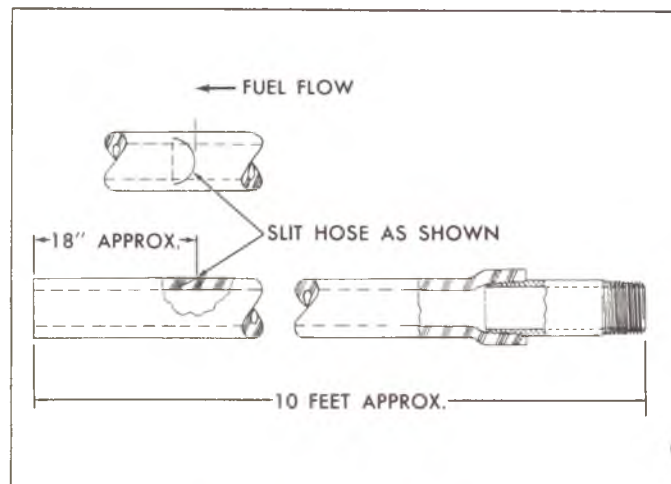

Fig. 1-Siphon Construction
1. Obtain approximately 10 feet of 3/8" I.D. hose and cut a flap-type slit 18" from one end. Make this cut in the direction of the shorter end of hose (See Figure 1).